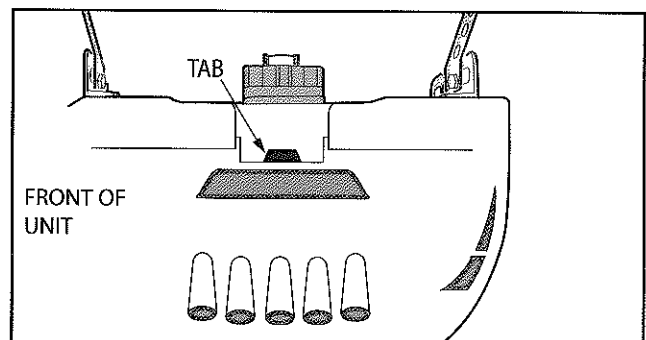

Figure 2 Light Lens
- Press in on center tab and lower lens. (**Figure 2**).